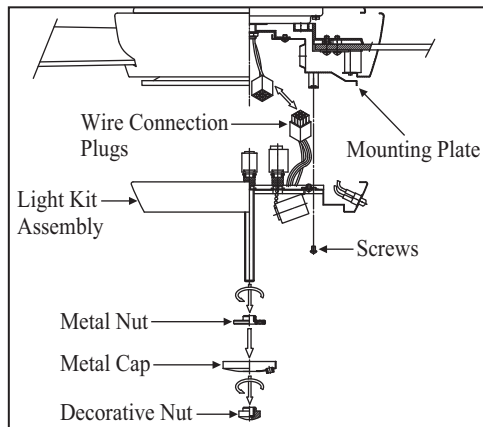

Figure 22
2. While holding the light kit assembly under your fan, snap the wire connection plugs together (Fig. 22).
3. Carefully push all wires back into the mounting plate. Place the key holes on the light plate over the 2 screws previously loosened from the mounting plate, turn the light plate until it locks in place at the narrow section of the key holes. Secure by tightening the 2 screws previously loosened and the one previously removed. (Fig. 22)
5. Remove the decorative nut, metal cap and metal nut from the light kit. (Fig. 22) Place the